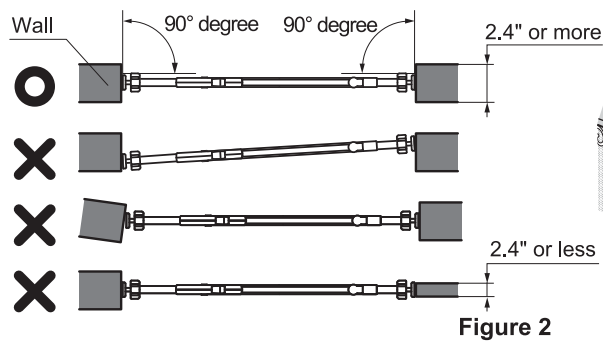
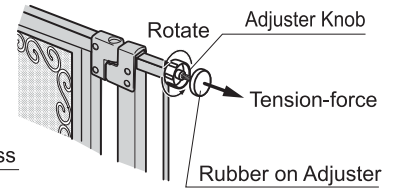

Figure 2
Figure 3
- Align the product at right angle to the wall and the top and bottom Adjuster Bolts are on a straight line as viewed from above. (See Figure 2)
- 1 Determine the desired direction for the door opening. Set the product against the wall at a right angle as shown in Figure 2. Tighten each upper Adjuster Knob until its rubber part touches the wall surface as shown in Figure 3